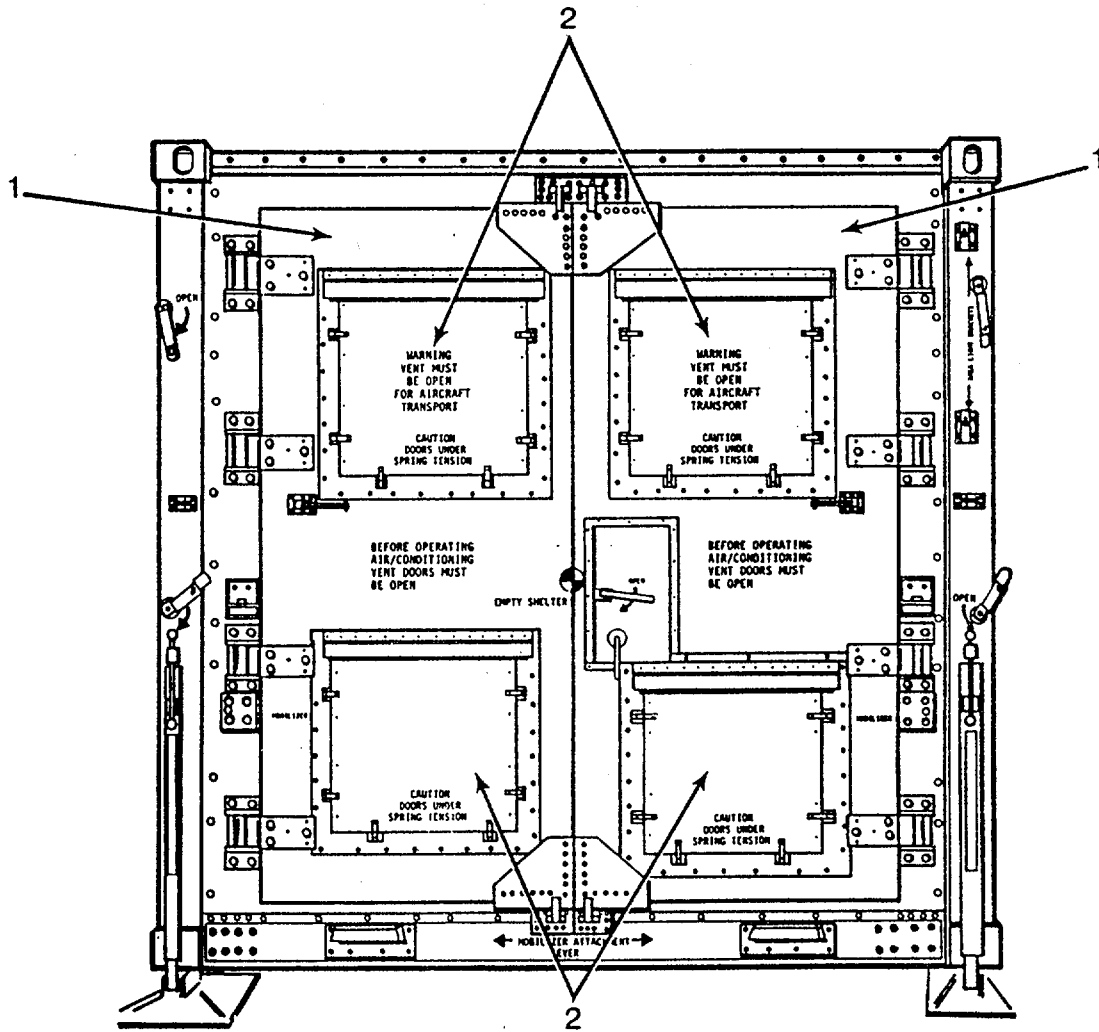
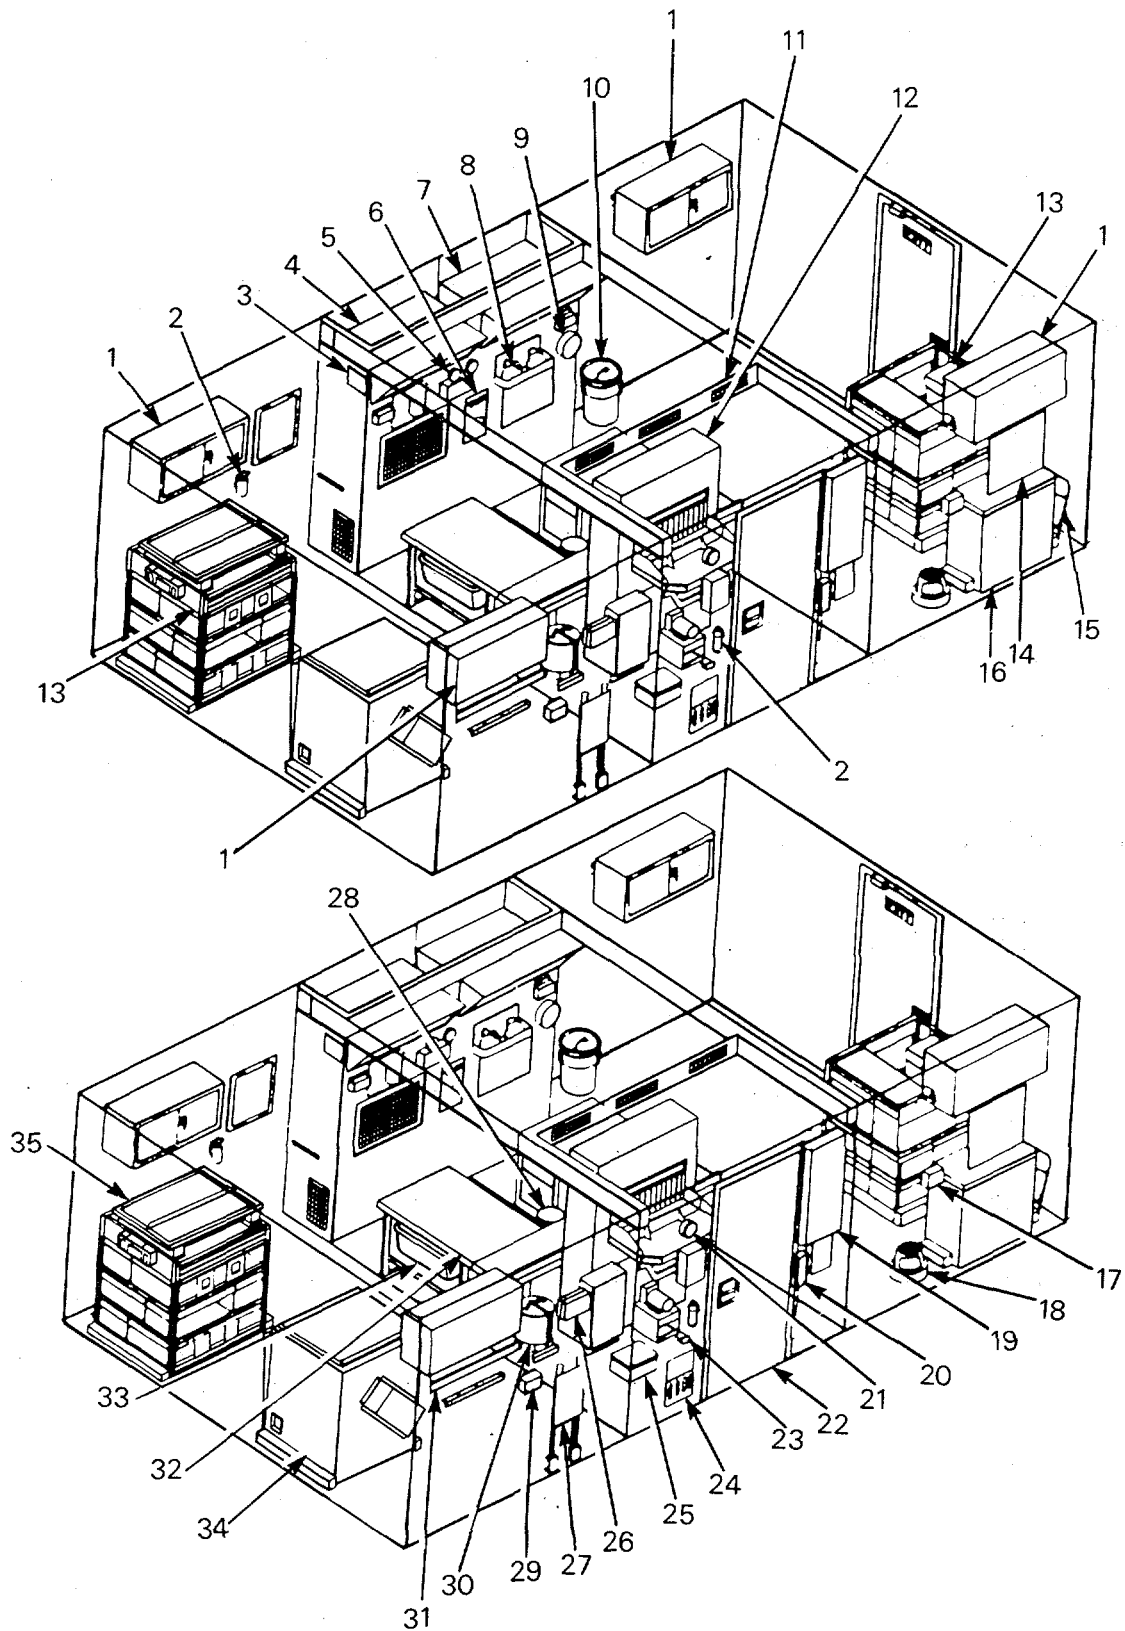

Figure 1-3. Outside Rear View of Finishing Section
Figure 1-4. Finishing Section Equipment Layout
b. Outside Rear View of Shelter. Refer to Figure 1-3 for location of major components.
(1) Cargo Doors - Provides access to air conditioning units.
(2) Air Conditioner Vents - Provides fresh air circulation for air conditioners. Must be opened for operation and for transport by aircraft.
c. Interior View of Finishing Section. Refer to Figure 1-4 for location of major components.
(1) Wall Storage Cabinet - Standard 2-door storage cabinet with one shelf. The shelter contains four storage cabinets.